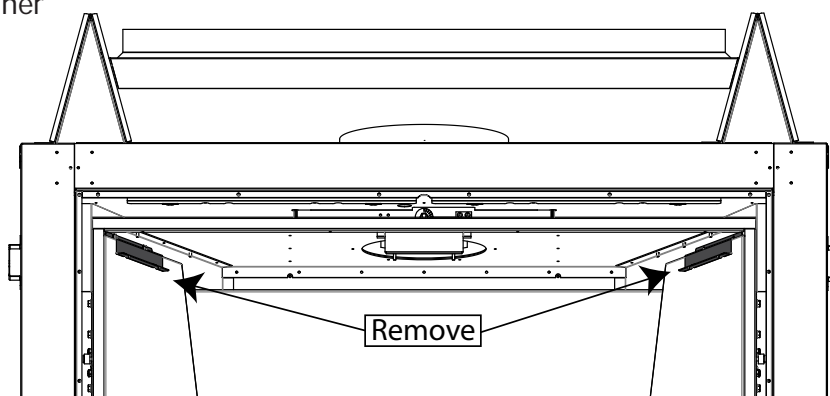

Figure 76: Liner Retainers
Step 3. Remove the side liner retainers one at a time using a 5/16 socket (see Figure 76). The screws only have to be loosened, not completely removed, as the retainers are slotted.